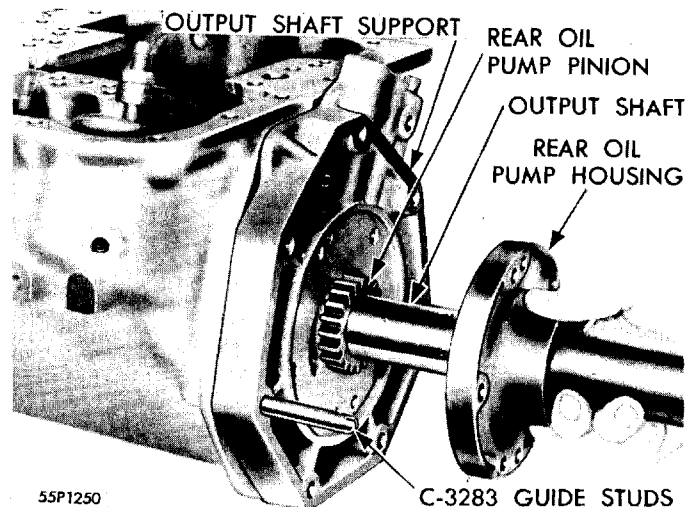

Fig. 17—Removal and Installation of Rear Oil Pump Housing
(1) Remove the five rear oil pump housing to output shaft support screws and lockwashers. Remove rear oil pump housing, as shown in Figure 17. Use dye to mark front side of gear in housing. **Do not use scribe.** Inspect machined surfaces for nicks and burrs, the oil pump gear and housing for heavy scoring or pitting and pump housing plug for leaks.
(2) Remove rear oil pump pinion from output shaft and mark front side with dye.